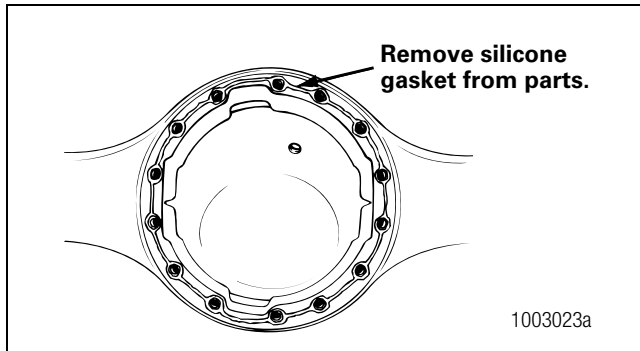

Figure 6.6
4. Clean the parts and apply new silicone gasket material where required when the axle is assembled. Figure 6.6.